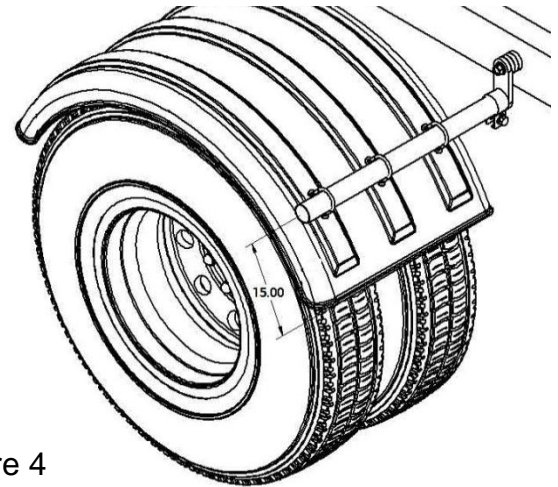

Figure 4
- D. If possible, position the brackets on the leading edge of the fender are within 15" of the bottom of the fender to avoid wind blowing the fender back into the tire. (Figure 4).